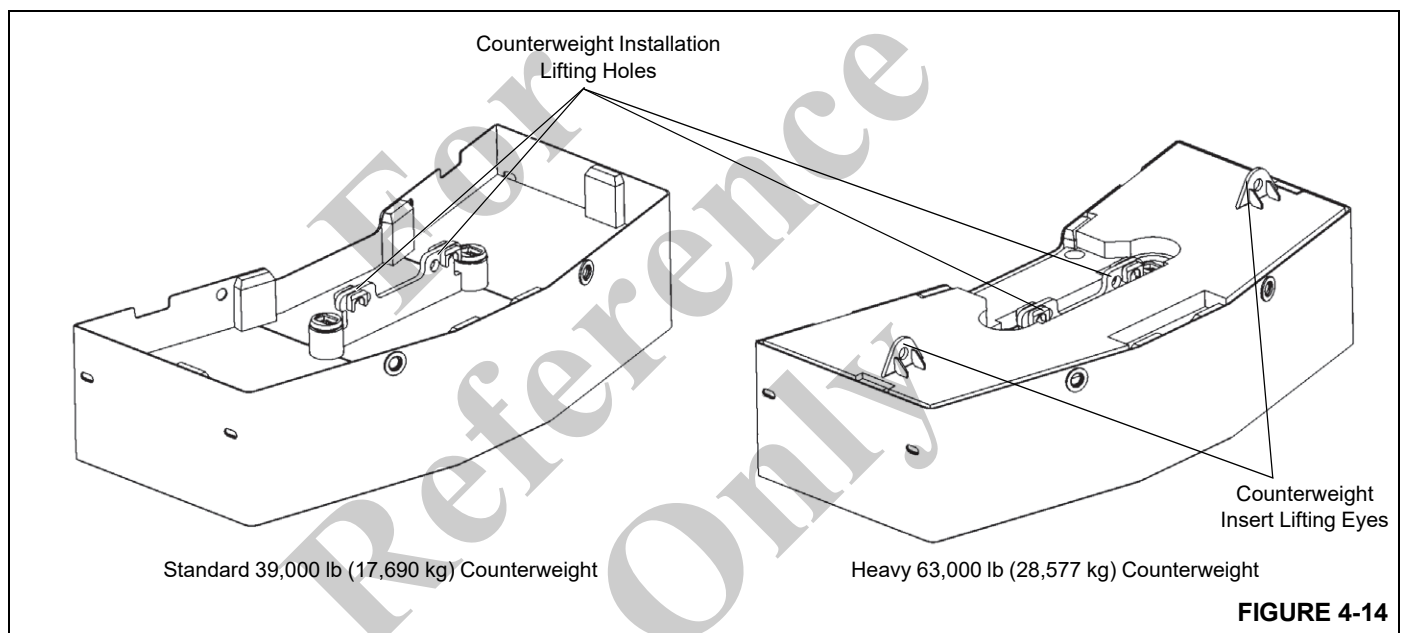

FIGURE 4-14
4. Connect sling assembly to the standard counterweight using the installation lifting holes (Figure 4-14).
11. Connect sling assembly to the standard counterweight using the installation lifting holes (Figure 4-14).
6. Connect sling assembly to the heavy fabricated counterweight assembly using the installation lifting holes (Figure 4-14).